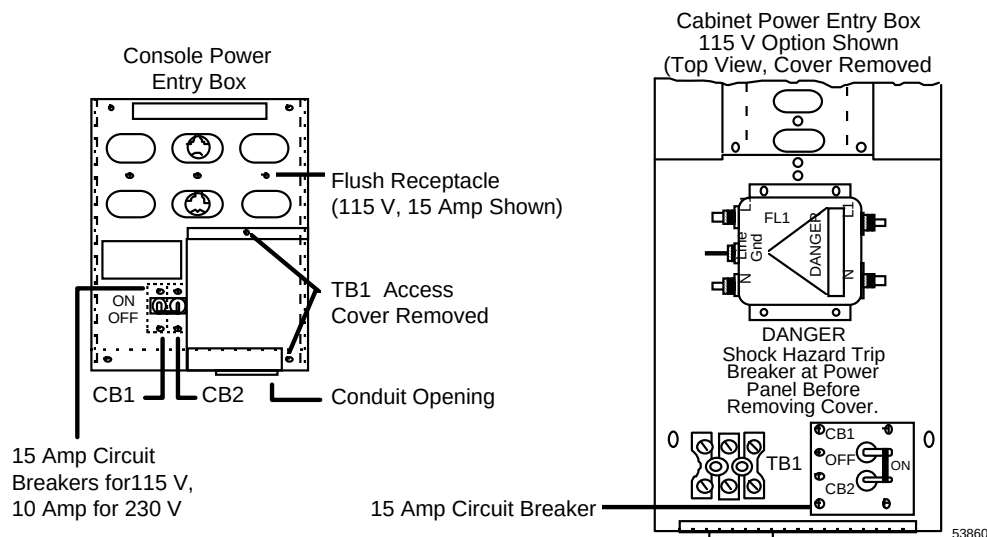
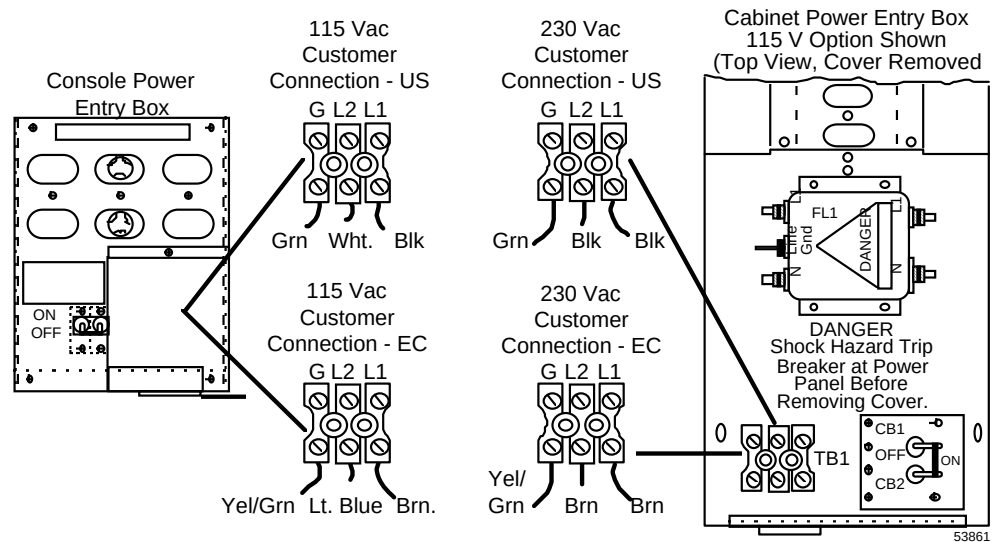

Figure 5-1 Classic Station Furniture Power Entry Box
Figure 5-2 LCN Cabinet Power Entry Box
2	Remove the access cover from the power entry box and wire TB1 as shown in Figure 5-1 or Figure 5-2.
Wiring entry to classic furniture can be made from the bottom of the circuit breaker box shown in Figure 5-1.
Wiring the power in a Universal Station located in Classic furniture is shown in Figure 5-1.
Wiring the power in a LCN cabinet is shown in Figure 5-2.
2. Locate the power entry box near the bottom of each implemented cabinet and console bay and open the two circuit breakers (see Figure 5-1). Remove TB1 access cover.
4. Close the breakers on the control room power-distribution panel and check for proper voltage at the point of power connection (TB1) (see Figure 5-1 for US and cabinets and Figure 5-2 for Z-Consoles). If okay, open the distribution panel breakers and then replace TB1 access cover(s).